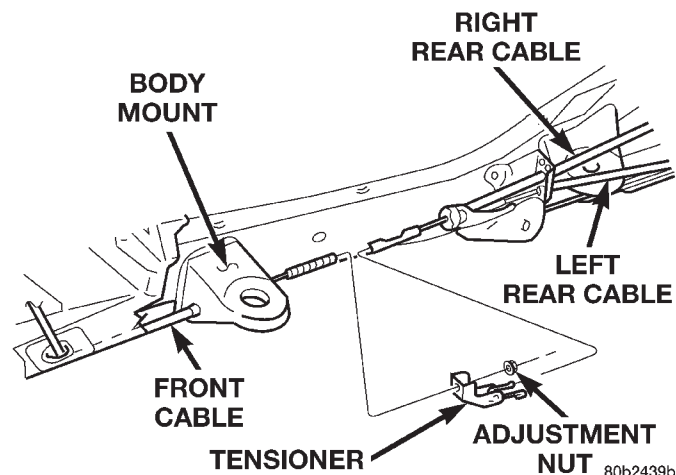

Fig. 31 Cable Tensioner
- (1) Raise and support the vehicle.
- (2) Remove cable adjuster nut (Fig. 31).
- (3) Pull cable through the body mount.
- (4) Remove support and lower vehicle.
- (5) Remove left kick panel.
- (6) Fold left front edge of floor covering rearward and remove cable grommet from floor pan.
- (7) Engage parking brake pedal and remove cable from park brake pedal assembly.
- (8) Pull the cable through the floor pan.
- (9) Remove cable from vehicle.